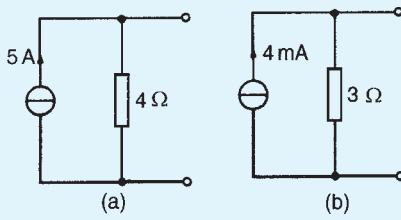

Figure 13.77
- Convert the networks shown in Fig. 13.77 to Thévenin equivalent circuits